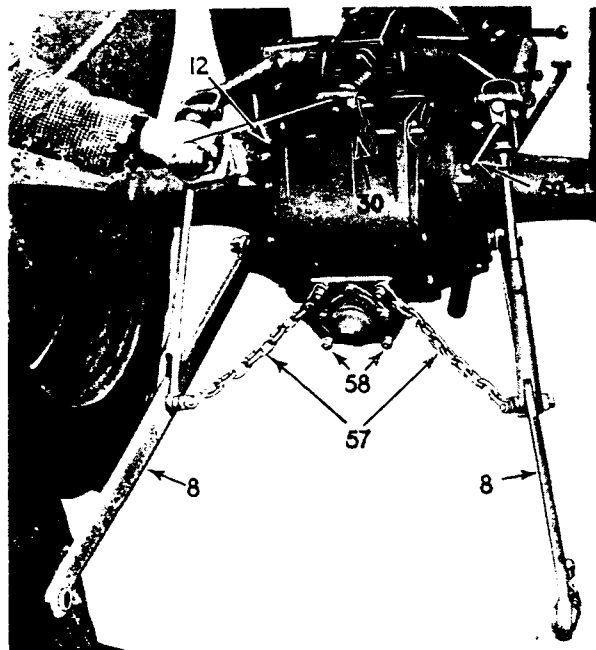

FIG 23
The lower links (8) illustrated in Figure 23 are mounted by ball joints to brackets cast on the rear axle casing and are retained by castellated nuts and split pins. They are raised and lowered by lift rods which, at the upper ends, are carried by universal joints on the hydraulic lift arms.
It is particularly important that the lower links are correctly mounted as shown in Fig. 23, with straight edges uppermost at the rear, and cut-away edges uppermost at the front. If lower links are not mounted in this manner, the upper edges may possibly foul the rear axle casing before hydraulic control valve, shut-off causing overloading of the hydraulic control mechanism.
mechanism. It would also restrict the ability of the implement to swing and could seriously affect its performance. Take care, too, that the chain anchors are assembled correctly, with the chain anchored above centre, as shown in Fig. 23.